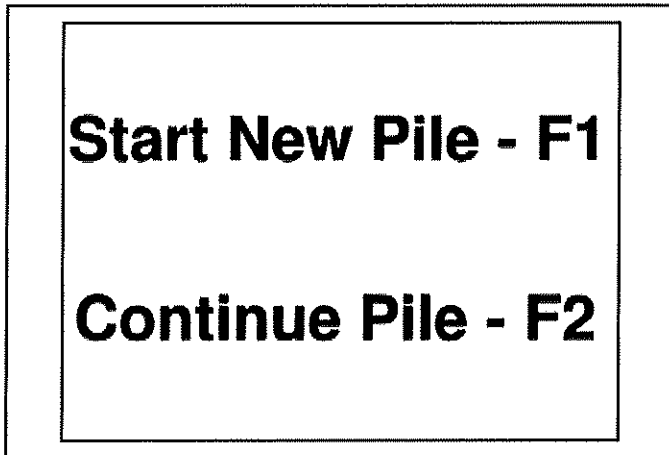

Figure 56
1. To begin a new pile press **Start New Pile** or [F1] (Figure 56).